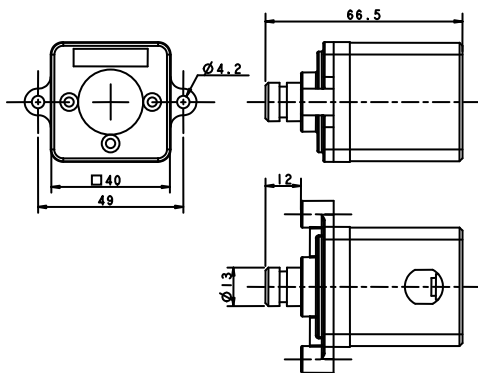
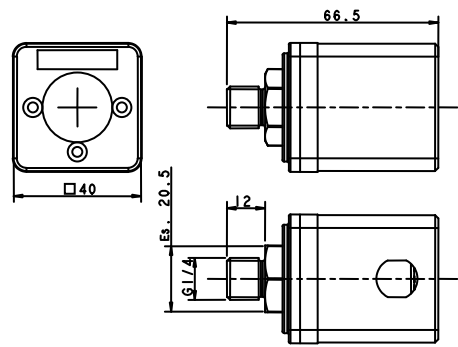

Fig. 2 Bracket fixing system
Fig. 3 G1/4 threaded male fixing system
- male clutch with G 1/4" thread (Fig.3);
- bracket with sealing O-ring and two M4 screws (Fig.2) to fit pressure switches to BRAHMA valves of the EG... series.
Fig.2 and Fig.3 show the overall dimensions.